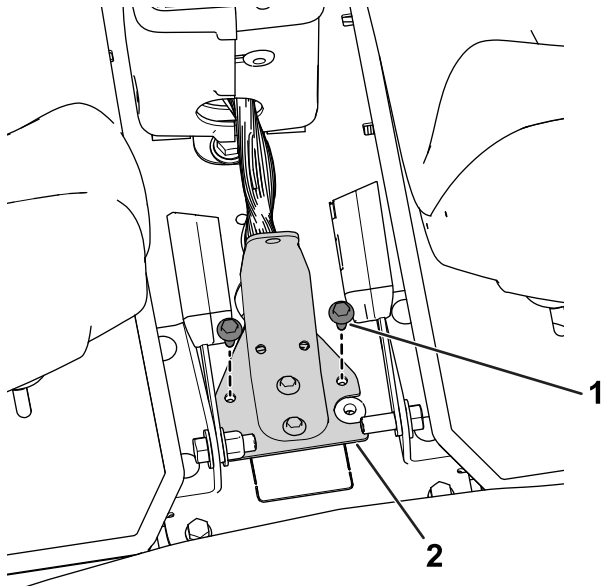

Figure 31
3. Use the previously removed bolts to secure the harness base to the console (Figure 31).